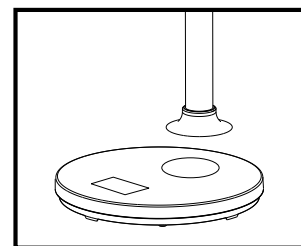

Figure 1
1. After the outer box is opened, place the center pillar and the base on a flat surface (Figure 1).